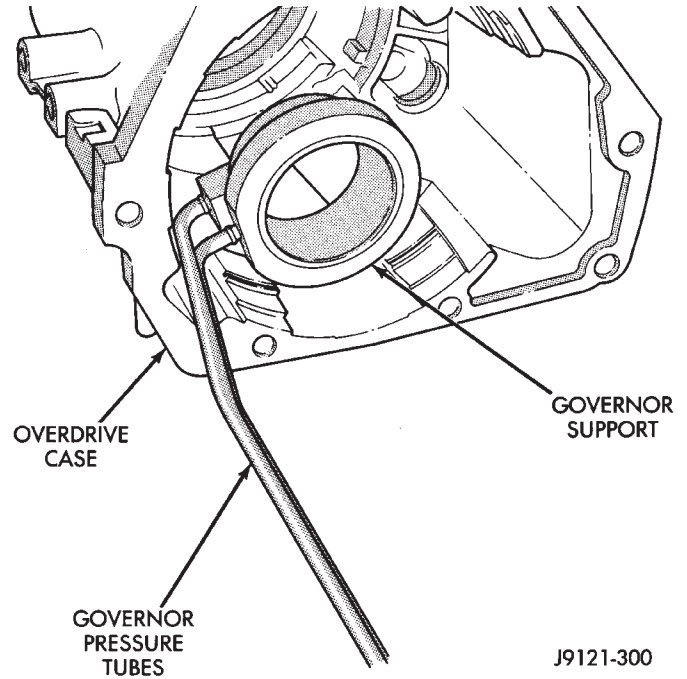

Fig. 13 Removing Governor Support And Tube Assembly
(13) Remove governor support and tube assembly from case (Fig. 13).